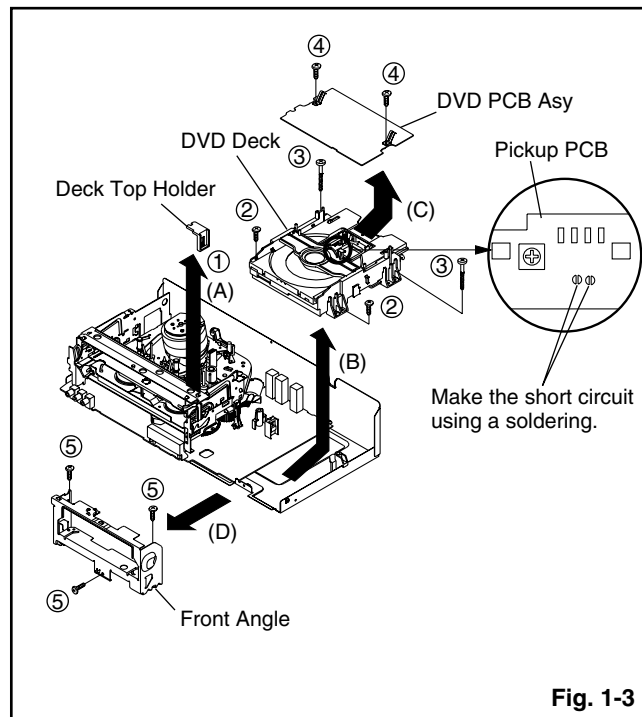

Fig. 1-3
1-3: DVD DECK/DVD PCB ASSY (Refer to Fig. 1-3)
1. Make the short circuit on the position as shown Fig. 1-3 using a soldering. If you remove the DVD Deck with no soldering, the Laser may be damaged.
2. Unlock the support ① and remove the Deck Top Holder in the direction of arrow (A).
3. Remove the 2 screws ②.
4. Remove the 2 screws ③.
6. Remove the DVD Deck in the direction of arrow (B).
7. Remove the 2 screws ④.
8. Remove the DVD PCB Assy in the direction of arrow (C).
9. Remove the 3 screws ⑤.
10. Remove the Front Angle in the direction of arrow (D).